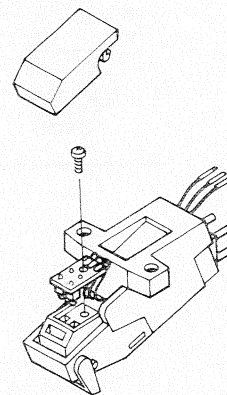

Fig. 7
3. Remove the upper lid of the cartridge and the printed circuit board. Then, unsolder the leads. (See Fig. 7)